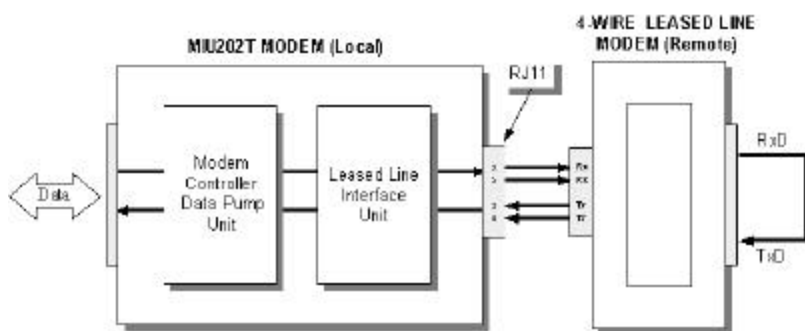

Figure 5 REMOTE DIGITAL LOOPBACK
**(c) REMOTE DIGITAL LOOPBACK – 4-Wire Network (Figure 5)**